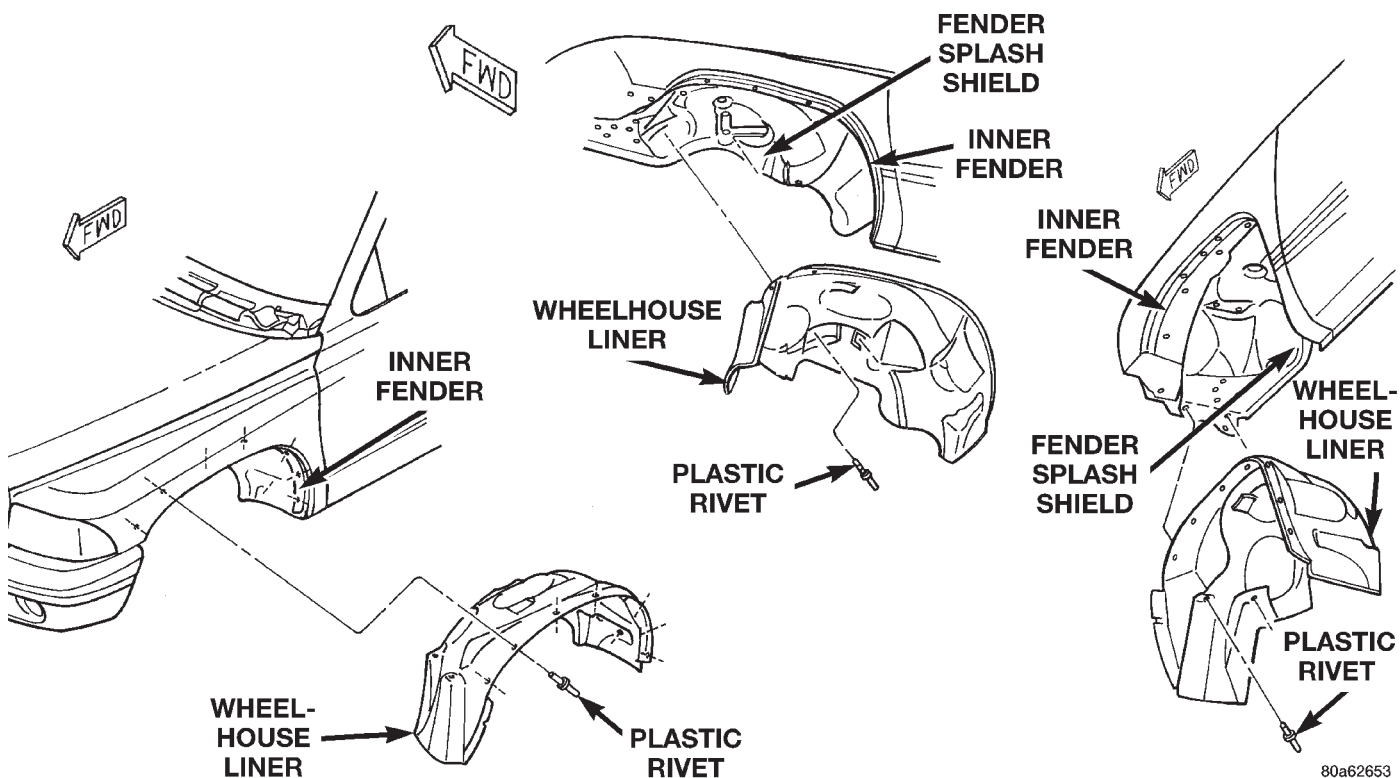

Fig. 11 Front Wheelhouse Liner
- (1) Raise and support the front wheel.
- (2) Remove the front wheel.
- (3) Remove wheel opening molding.
- (4) Remove plastic rivets attaching wheelhouse liner to wheelhouse (Fig. 11).
- (5) Separate liner from vehicle.